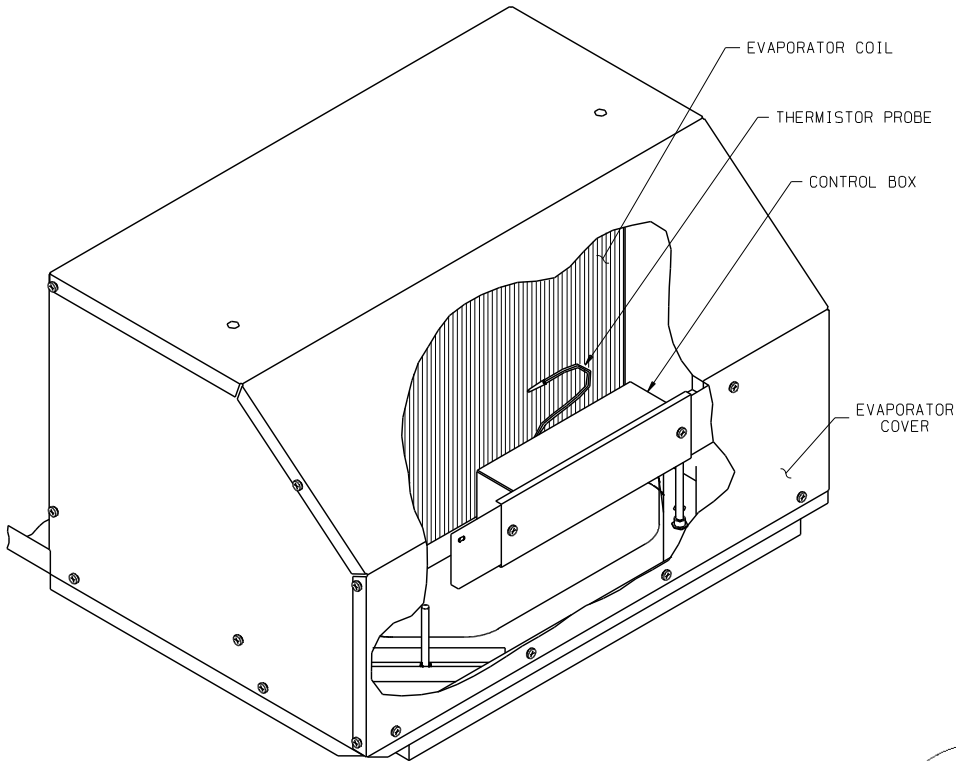
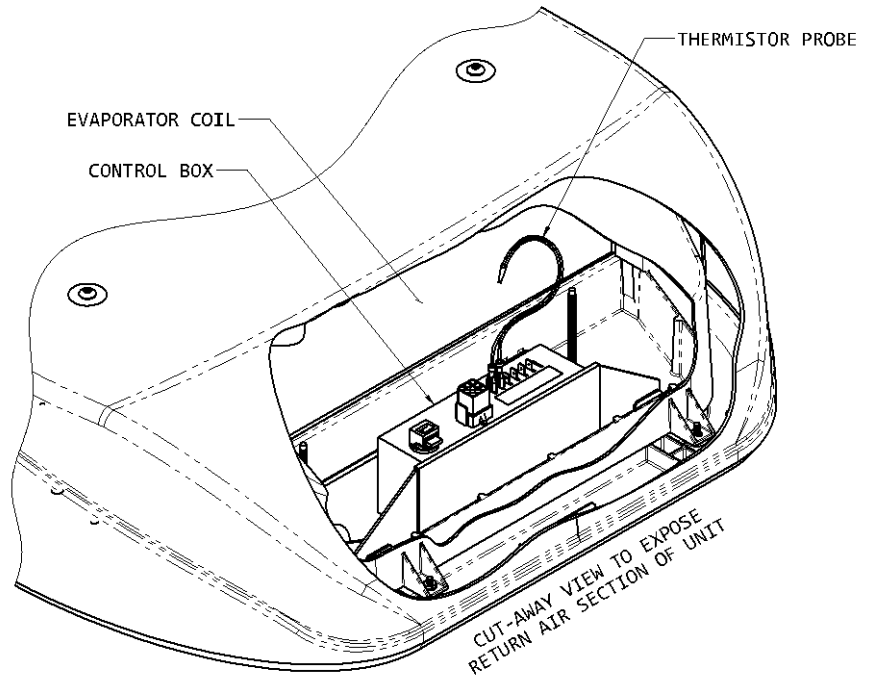

Figure 2
Figure 3
1. Two machine screws are in the upper unit for mounting the control box. The control box will be mounted by positioning over the screws and using the wing nuts to fasten the control box to the upper unit. For 48000 or 49000 series upper units, see Figure 2. Installation in a 47000 series unit will require mounting the control box with the wires exiting upwards (See Figure 3).
2. Insert the freeze circuit thermistor probe into the roof top unit evaporator coil. Verify that the probe is located in the coil properly (See Figure 2 or 3).